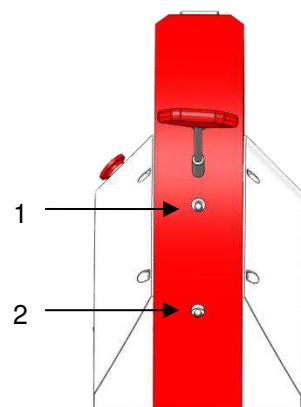

Fig. 8.05
You can adjust the shut height of the dies with a hex socket wrench (Fig.8.05, item 1), depending on the application requirement:
You can adjust the return stroke with the hex socket wrench (Fig. 8.05, item.2), depending on the application requirement: